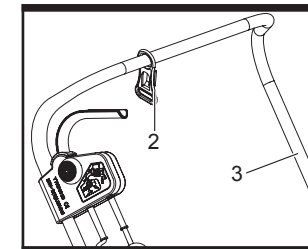

Fig. 3
- c). Slide the cord strain relief (2) onto the upper handle bar (3). (See Fig. 3).